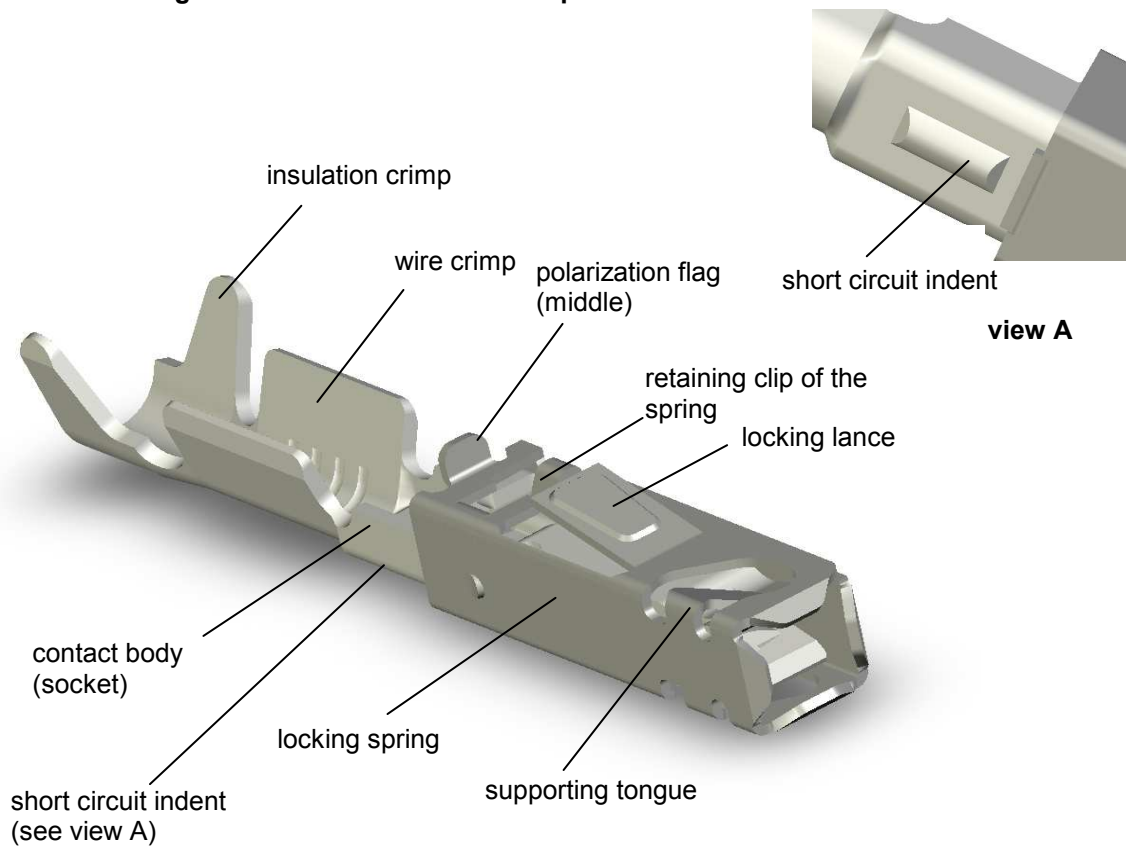

Figure 2: construction ELO 0.63 socket contact
3.1.2 ELO socket contact standard (see figure 2)
3.1.5 Short circuit indent (see figure 2)